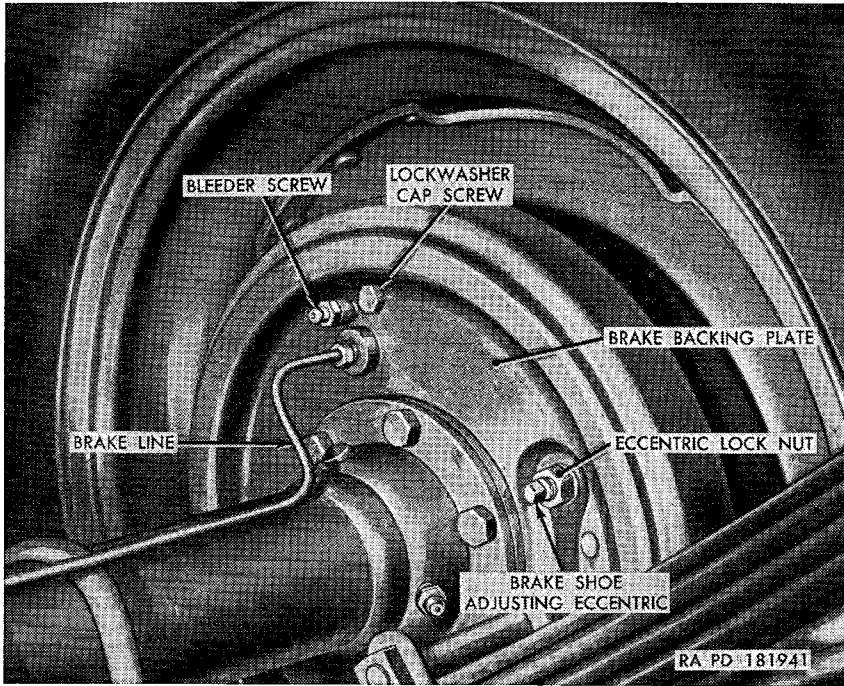
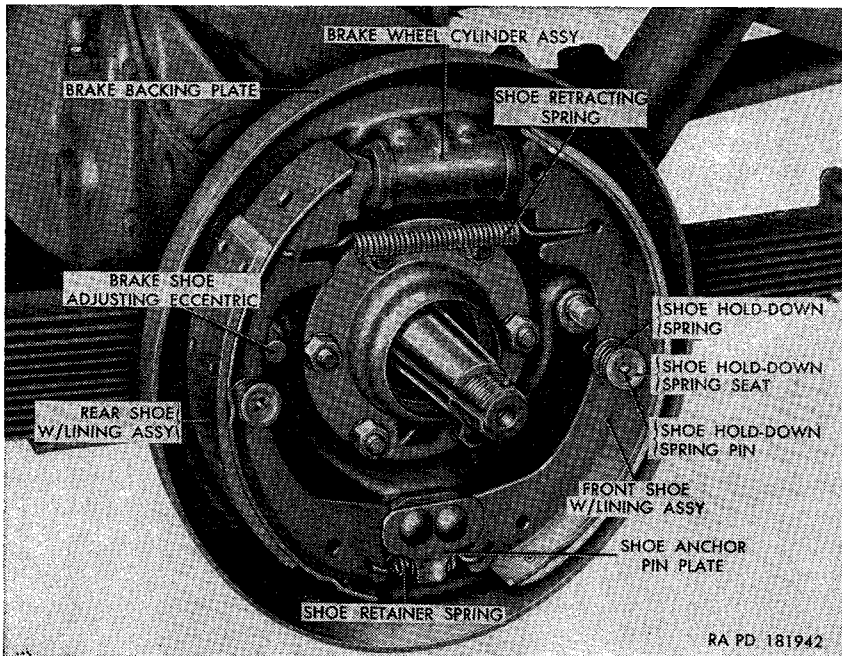

Figure 159. Rear brake backing plate installed
Figure 160. Rear servive brake assembly—wheel, hub and drum removed.
- (1) Make certain the pedal shaft assembly is lubricated and the brake pedal retracting spring is undamaged and properly connected.
- (2) Hold a rule next to the brake pedal and depress the pedal by hand. No resistance should be felt until the pedal has traveled one-half inch. If distance traveled before resistance is felt is incorrect, adjust as shown in (3) below.
- (3) Loosen the locknut on the eye bolt and turn the master cylinder push rod clockwise to decrease and counterclockwise to increase the free travel. Tighten the lock nut when adjustment is correct.
*b. Service Brake Shoe Adjustment (fig. 159).* Except where noted, the procedure for adjusting the service brake shoes is the same for all shoes.
- (1) Jack up the vehicle until tire clears the ground. Block one of the other wheels.
- (2) Loosen the brake shoe eccentric lock nut.
- (3) Rotate the wheel and, at the same time, turn the shoe adjusting eccentric (clockwise for front shoe, counterclockwise for
- (1) Jack up the vehicle and remove the wheel and brake drum (par. 209a).
- (2) Loosen the brake shoe eccentric lock nut (fig. 159) and turn the brake shoe adjusting eccentric (fig. 160) until the low side of the eccentric touches the brake shoe.
- (3) Unhook and remove the shoe retracting spring and the (anchor end) shoe retainer spring.
- (4) Press against the shoe holddown spring seat to compress the shoe holddown spring and turn the seat until the flat end of the shoe holddown spring pin is alined with the seat slot. Remove the spring and spring seats. Remove the opposite spring and seats in the same manner.
- (5) Remove the pins through the brake backing plate.
- (6) Spread both brake shoe with lining assemblies to disengage the upper ends of the shoes from the brake wheel cylinder assembly and the lower ends from the shoe anchor pin plate. Remove both shoes with lining assemblies.
d. *Brake Shoe with Lining Assembly Installation* (fig. 160).
- (1) Position the front shoe with lining in the front half of the brake backing plate with the upper end of the shoe inserted into the wheel cylinder and the lower end engaged in the slot behind the shoe anchor pin plate. Install the rear shoe on the rear half of the backing plate in the same manner.
- (2) From the back of the brake backing plate, insert the brake shoe holddown pins through the holes in the plate and shoes.
- (3) Install a shoe holddown spring seat over the pin with the seat cupped side facing the shoe. Install a shoe holddown spring and a second spring seat on the pin with the second seat cupped side facing away from the shoe.
- (4) Aline the spring seat slot with the pin flat end. Force the seat over the pin and turn the seat 90° to lock it in position. Install the holddown spring and spring seats on the opposite side in the same manner.
- (5) Hook the two ends of the (anchor end) shoe retainer spring through the holes in the lower ends of the two shoes. Hook
- (2) Unhook and remove the shoe retracting spring (fig. 160) from the upper ends of the two shoes, and spread the shoes as far apart as possible.
- (3) Disconnect the brake line from the brake backing plate (fig. 159).
- (4) Remove the two lockwasher-cap screws securing the brake wheel cylinder to the backing plate and remove the cylinder (fig. 160).
- (1) Position the wheel cylinder (fig. 160) on the brake backing plate (fig. 159) with the cylinder holes alined with the plate holes. Secure the cylinder to the backing plate with two lockwasher cap screws.
- (2) Connect the brake line to the wheel cylinder fitting in the brake backing plate (fig. 159).
- (3) Insert the brake shoe ends into the wheel cylinder ends and install the shoe retracting spring (fig. 160).
- (4) Install the drum and wheel (par. 209*b*) and bleed the brakes (par. 237).